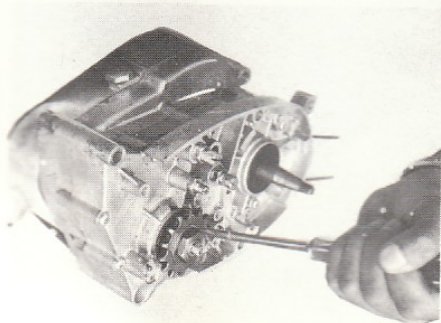

Fig. 3-32
a. Use a screwdriver to flatten the lock washer and unlock the nut. (Fig. 3-32)